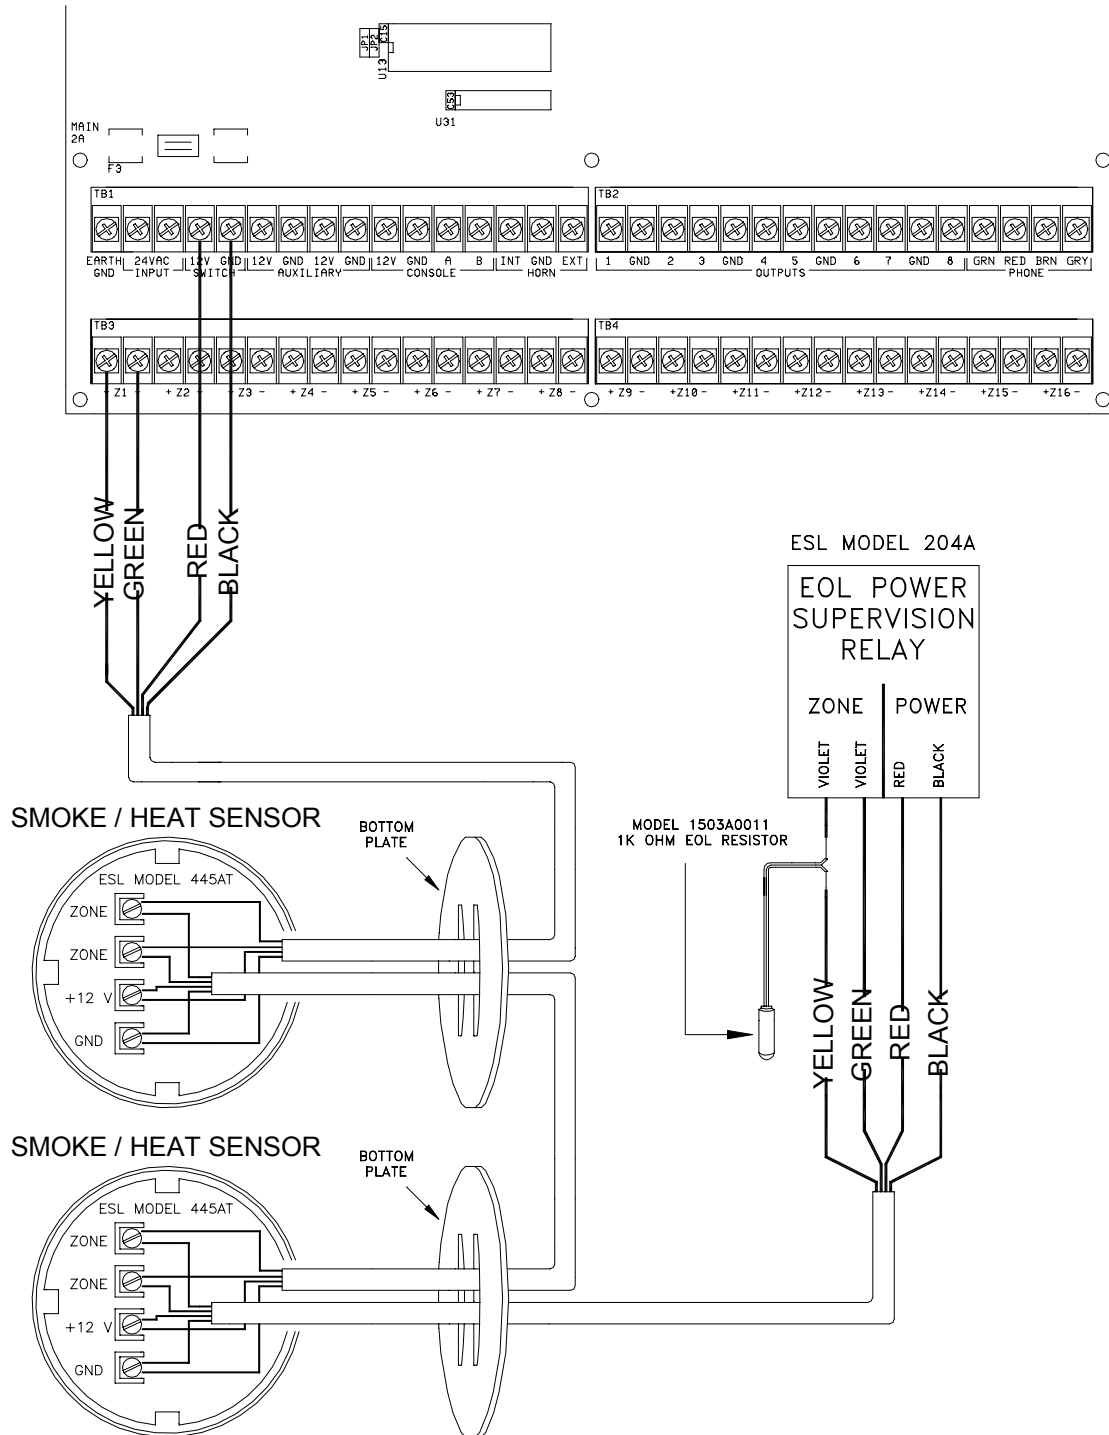

Figure 3 - Fire Zone Connections
5. Refer to **FIGURE 3 (FIRE ZONE CONNECTIONS)** for this configuration.